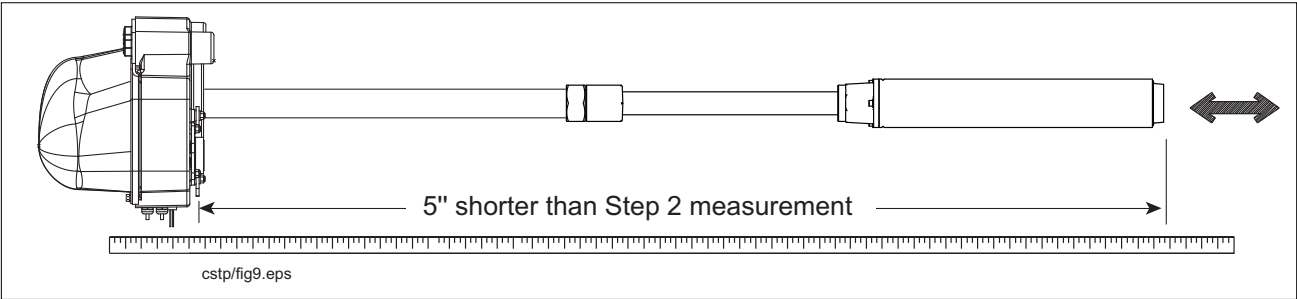

Figure 9. Adjusting Pump Length
8. Pull the UMP end until the distance between the bottom of the manifold and the bottom of the UMP is 5 inches (125 mm) shorter than the distance measured in Step 2 (see Figure 9).